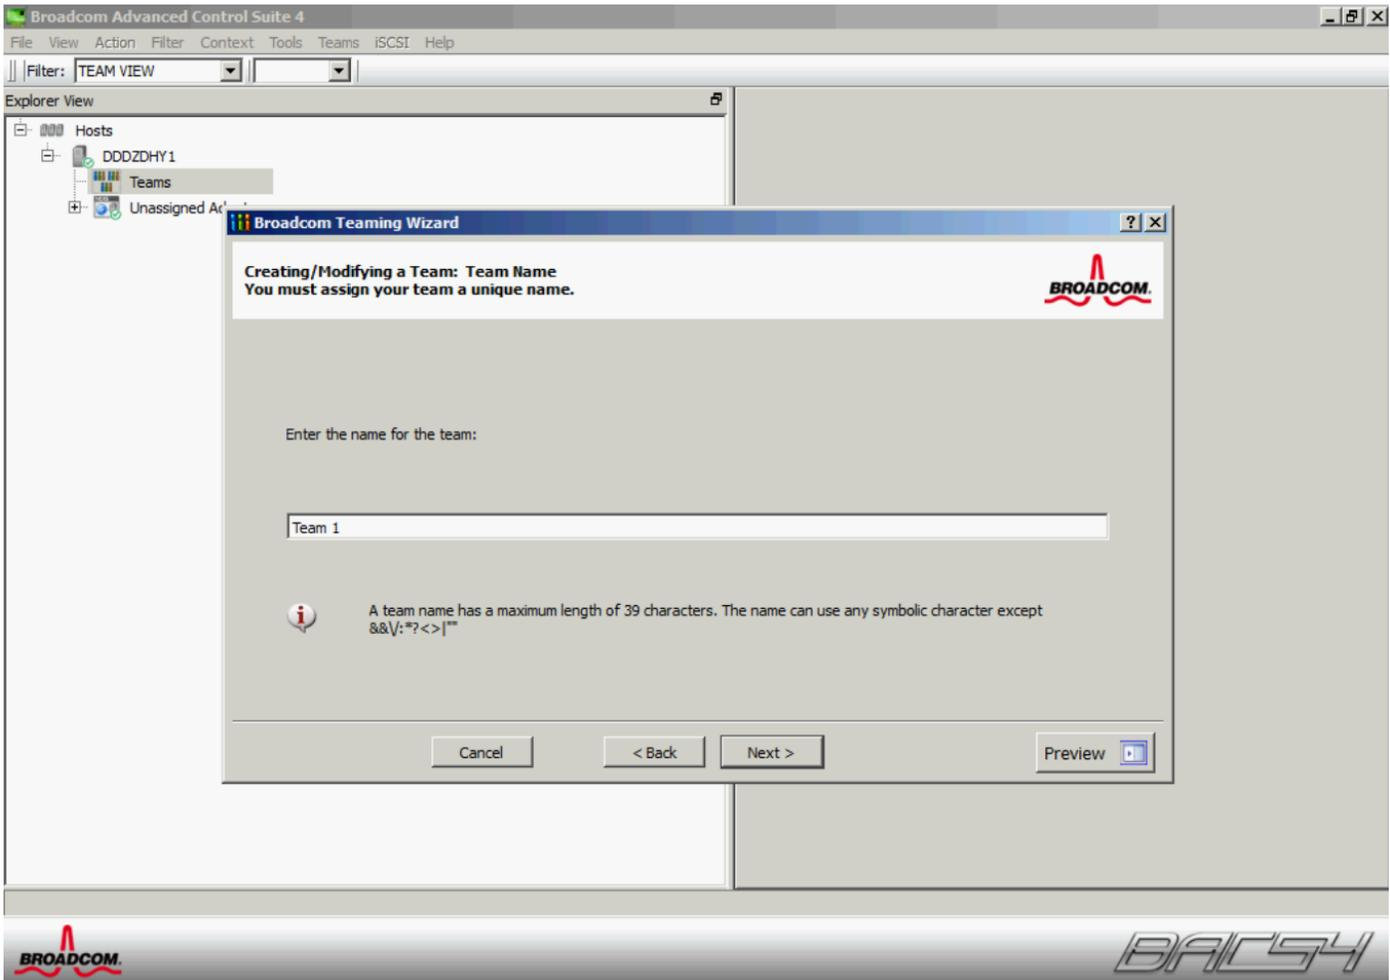

Figure 14 Naming the NIC team on Broadcom 57810 CNA
8. Click **Next**, keep the default team name (Figure 14) and click **Next** again.